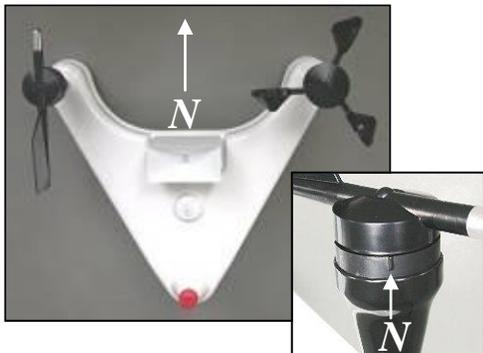

Figure 14: Accurate wind direction measurements require the reference line on the wind direction sensor (right) to be aligned with Magnetic North.
3. As a reference, use a magnetic compass (supplied in the optional Tripod Installation Kit, P/N TP1-TK) and rotate the WeatherHawk assembly until the reference line on the wind direction sensor is aligned with Magnetic North (Figure 14).